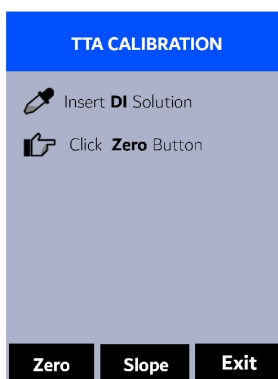

Figure 4.
3. Press **Calib** (⏪ or ⏩) to launch the **TTA CALIBRATION** screen (Figure 4).